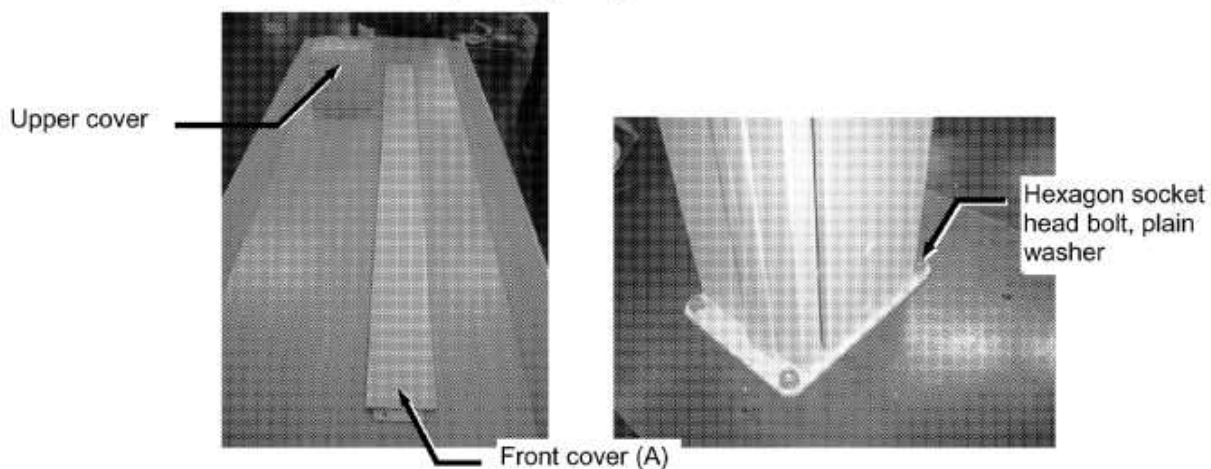

Fig. 4. 1
When using a base plate, fix them on the floor surface before securing the column on the base plate.(Fig. 4. 1)
2. Install the bucky mount unit mount on the carriage of stand. Aligning the hole on the back of bucky mount unit and the screw on the carriage, mount the base temporarily and then fix with 4 pieces of hexagon socket head bolt (M8x12, M8x10).(Fig. 4. 2)